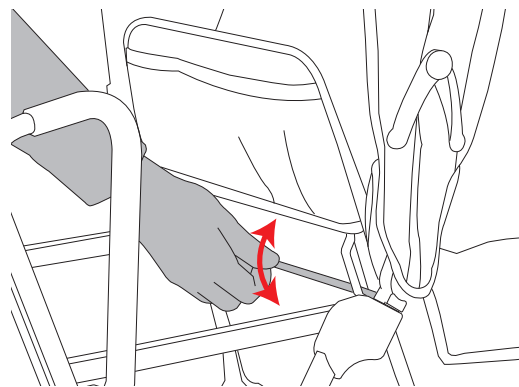

Figure 20
- To place the seat in the upright position, push the bar on the rear of the seat toward the front of the stroller and rotate the seatback towards the front of the stroller until this bar is locked in its LOWEST position. See Figure 20.